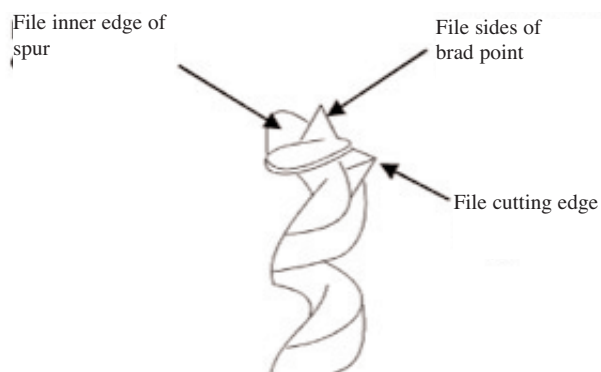

Figure 7
1. Sharpen the bit by using a small, smooth file, following the original shape of the bit. File the inside edge of the spur, the sides of the brad point, and the cutting edge inwards toward the flute of the bit. See Figure 7.